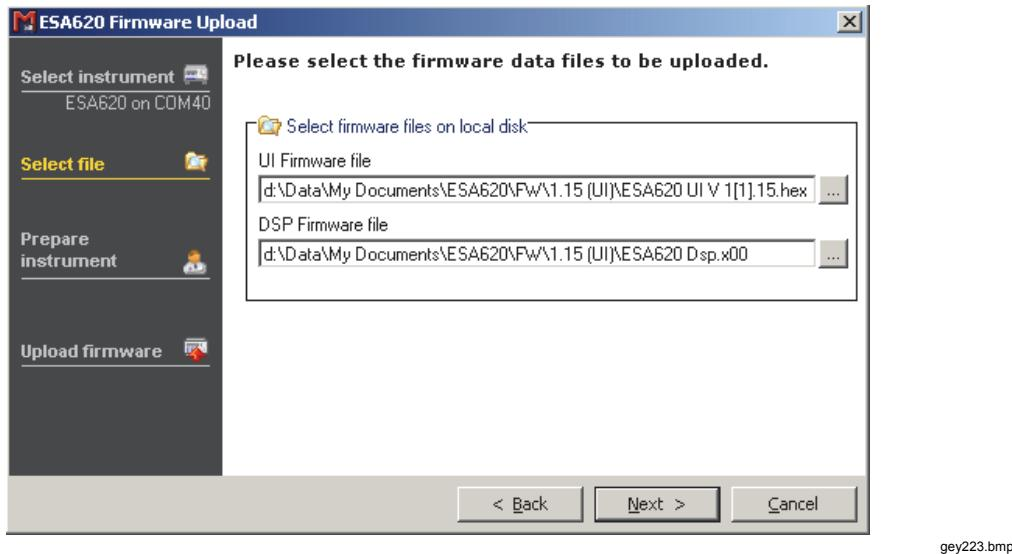

Figure 4-47. Firmware Upload Wizard
1. Start AnsulMLC and select **Tools | Upload Firmware**. Alternatively, from the Window's Start menu, select **Programs | Fluke | Update Firmware**. This starts the firmware upload wizard shown in Figure 4-47.
2. Select the instrument model and the COM port that the instrument is connected to and then click **Next**. (See Figure 4-47).